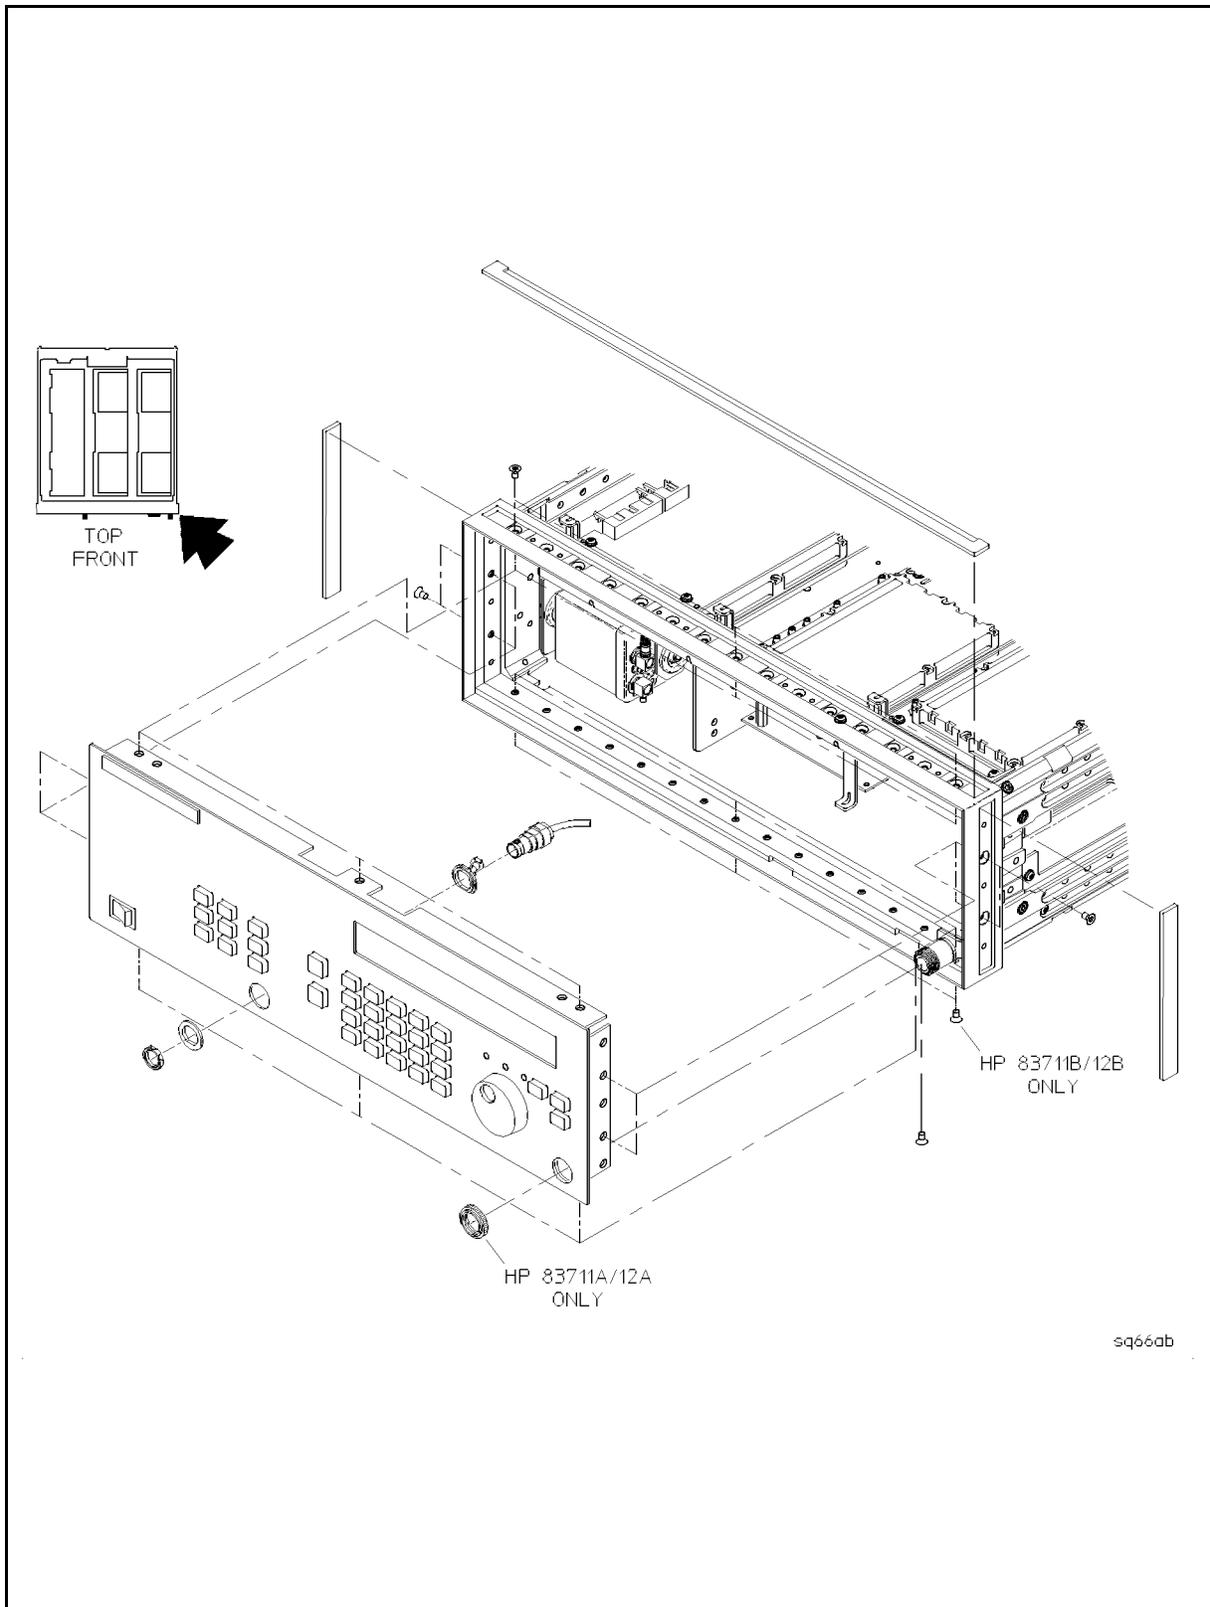

Figure 5-33. Front Panel and BNC Connector Removal
3. Using a knurled-nut driver, remove the knurled nut from the RF Output Connector. See Figure 5-33.
5. Using a size 10 TORX® screwdriver, remove the ten screws connecting the front panel to the front frame. See Figure 5-33.
1. Using a knurled-nut driver, remove the knurled nut securing the BNC connector to the front panel. See Figure 5-33.
1. In the introduction to this chapter, refer to “Flexible Coaxial Cables,” and then disconnect the following cable from the front panel: (See Figure 5-33.)